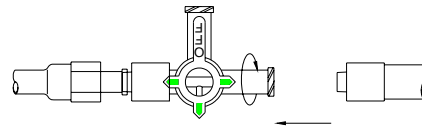
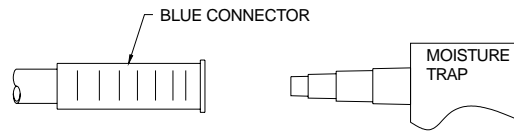

Figure 3
Figure 4
7. Connect the blue connector on one end of the 12-foot vacuum line to the vacuum canister. See Fig 4. Connect the male fitting of the 12-foot vacuum line to the three-way stopcock. See Fig 3. Turn the stopcock to the off position with the "Off" indicator pointed in the direction of the vacuum source